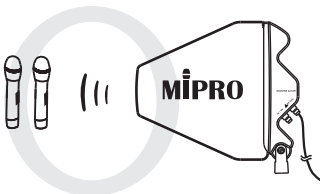

Fig. 4: Correct. Transmitter Microphones are facing the AT-90W.
2. TX/RX Antenna Cable Connector ② can be connected with 10m antenna cable to MI-909T transmitters, AD-808 antenna combiner, any ACT-Series receiver or AD-708 antenna divider.
3. RX Only Connector ① has to be connected to an ACT receiver or AD-708 antenna divider. When the receiver or AD-708 is powered on, the Power LED Indicator of AT-90W glows to indicate booster is active. Booster is inactive when Power LED Indicator does not glow when powered on.
5. Adjust antenna's directional angel to proper position for best performance result. Fig. 4, 5